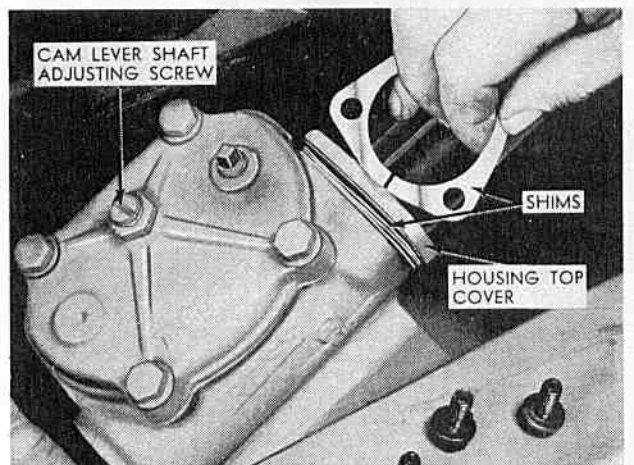

FIG. 204
**CHAMPION AND COMMANDER** The steering post end play should be adjusted first. Place jacks under the outer ends of the control arms, back off the cam lever shaft adjusting screw, and remove the cap screws which hold the steering gear housing top cover to the steering gear case. Then add or remove the necessary number of shims to obtain proper steering post adjustment. The shims must be split before they can be removed or installed. (See Fig. 204.)